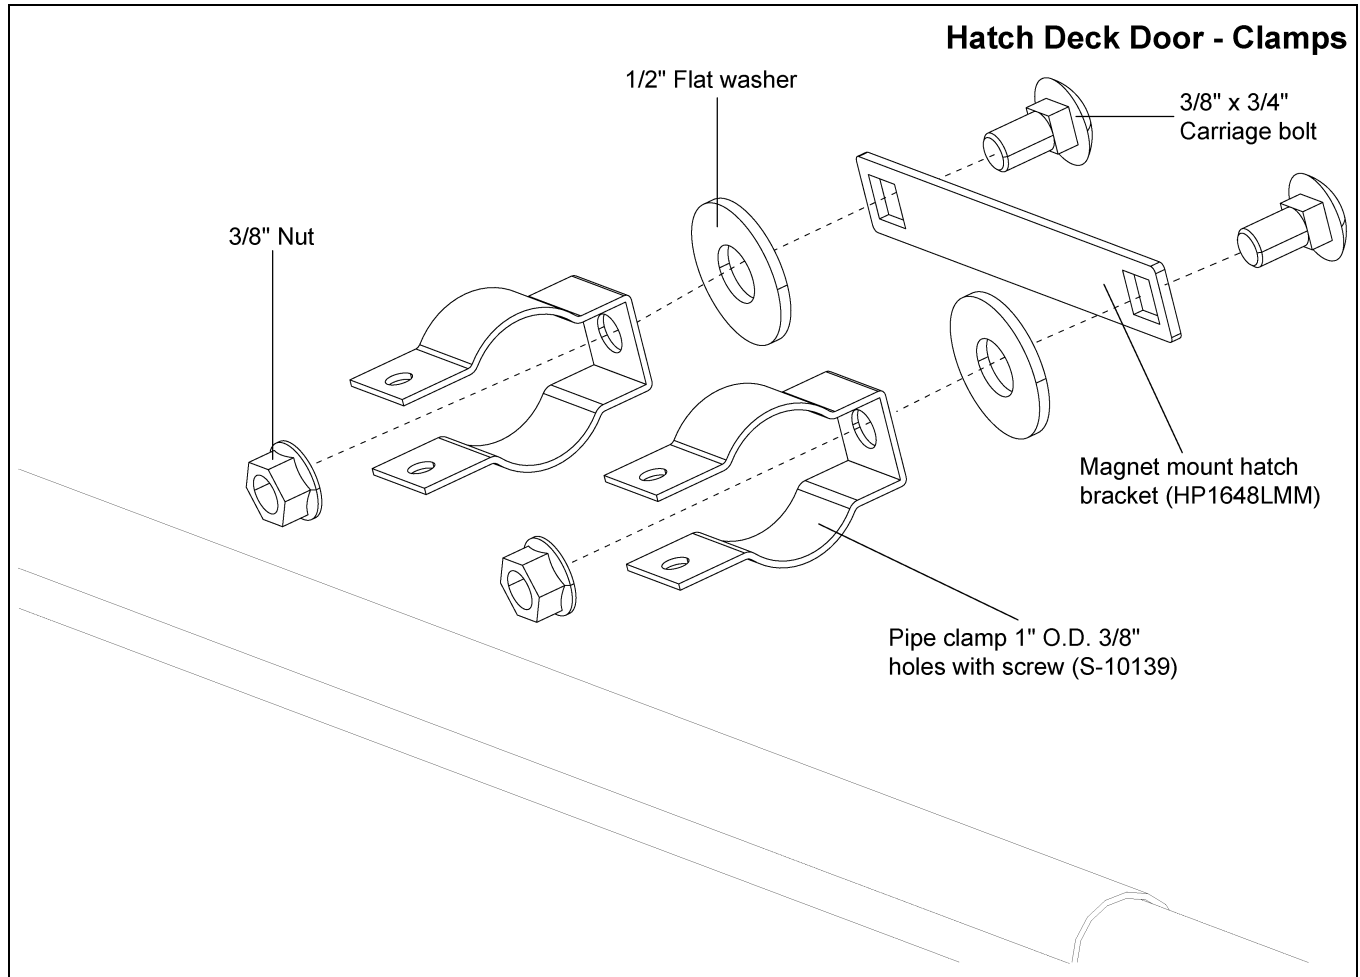

Figure 11E
7. Assemble pipe clamps (S-10139) to the magnet mount hatch bracket (HP1648LMM). Insert 3/8" x 3/4" carriage bolts through the magnet mount hatch bracket, 1/2" flat washer and pipe clamp. Fasten with 3/8" nut. (See Figure 11E.)